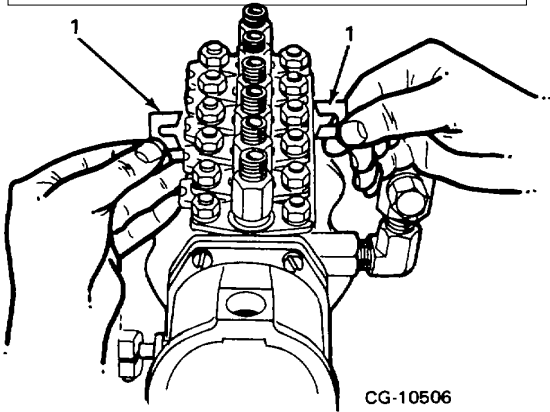

Figure 4. Inserting Adjusting Spacers
9. Compensate for deviation from the specified measurement by inserting the proper size adjusting spacer (available in thickness steps of 0.05 mm) between the barrel flange and pump housing (Figure 4).